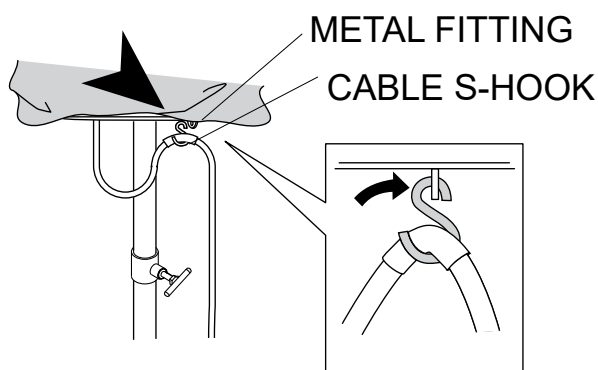

Figure 11. Cable S-Hook
5. Place the cable S-hook onto the metal fittings at the bottom of the balloon. See Figure 11.